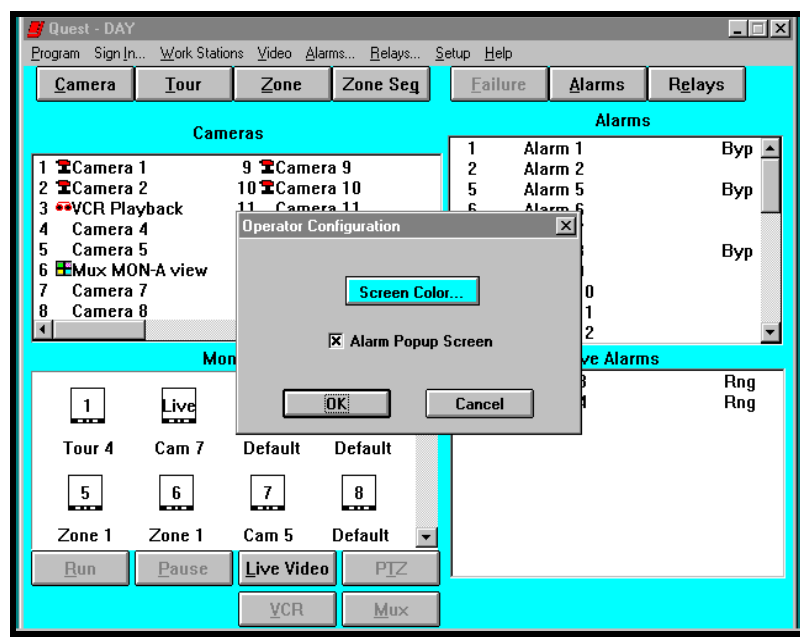

Figure 2-25. Operator Configuration Screen
2. Click **Operator Configuration**, to display the selections as shown in Figure 2-25.